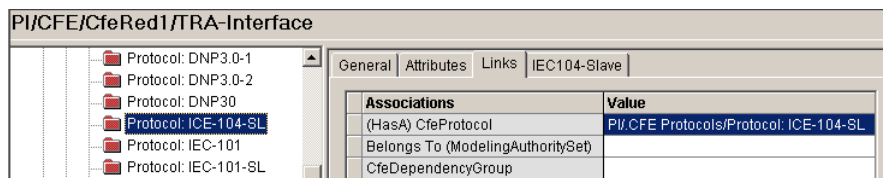

Figure 3-3.13: Establishing a System Link to the Slave Protocol Instance "IEC-104-SL"
2. Open the tab 'Links' and establish a system link from protocol instance 'PI/CFE Protocols/IEC104-SL' to the association '(HasA)CfeProtocol', see Figure 3-3.13